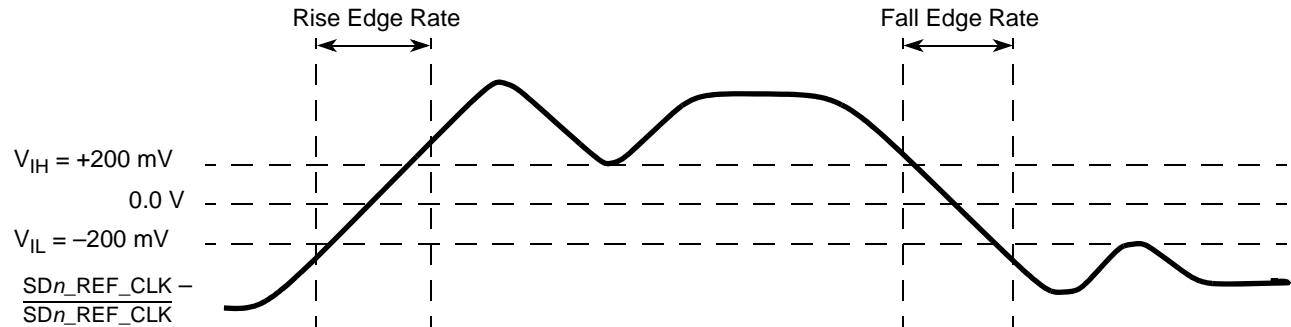

Figure 47. Differential Measurement Points for Rise and Fall Time
3. Measured from −200 mV to +200 mV on the differential waveform (derived from $\text{SD}n_ \text{REF_CLK}$ minus $\overline{\text{SD}n_ \text{REF_CLK}}$). The signal must be monotonic through the measurement region for rise and fall time. The 400 mV measurement window is centered on the differential zero crossing. See Figure 47.